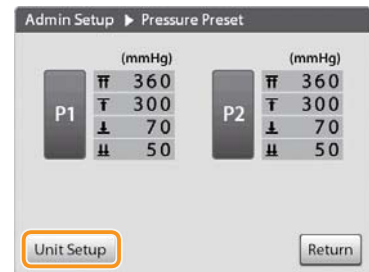

Figure 3-67
2. Tap [Unit Setup]. (Figure 3-67)